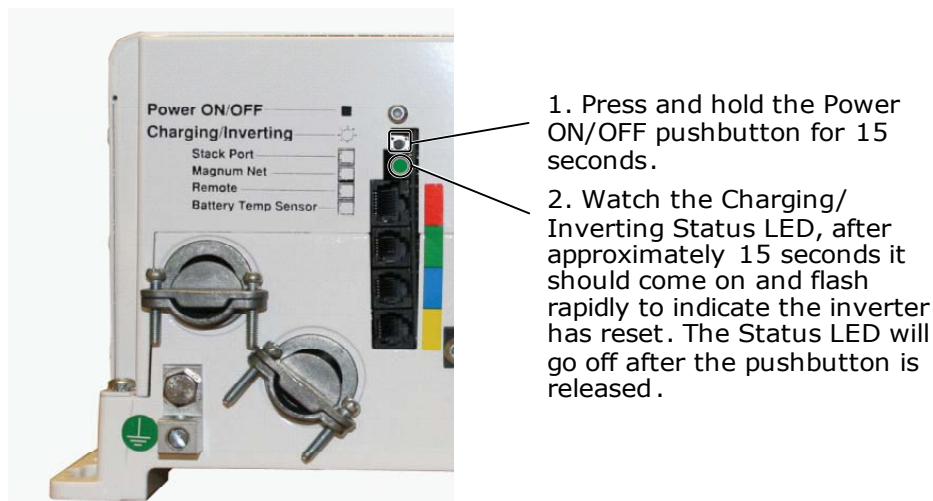

Figure 6-1, Performing an Inverter Reset
Press and hold the Power ON/OFF button (see Figure 6-1) for approximately fifteen (15) seconds until the Charging/Inverting Status LED comes on and flashes rapidly. Once the rapid flashing has begun, release the Power ON/OFF button. The Status LED will go off after the button is released.